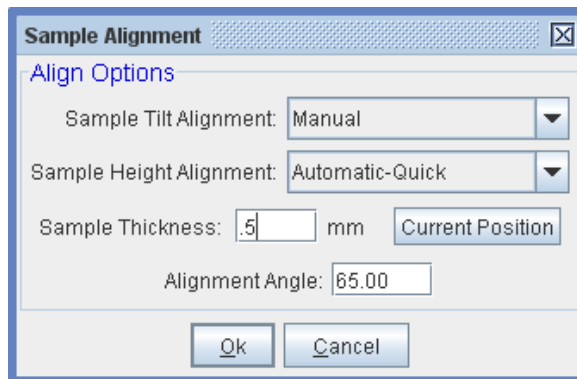

Figure 4-58. Sample Alignment dialog box.
7. Select Cancel Alignment (or press ESC) to exit the screen. The system will perform an auto Z height search to find the maximum intensity. If an accurate sample height was entered into Sample Alignment dialog box (see Figure 4-58), the alignment is likely complete. If not, these steps may need to be repeated (iterate tip/tilt and Z height search) until the sample is properly aligned. The software will enforce this action if necessary. Two conditions must be simultaneously met for successful sample alignment: